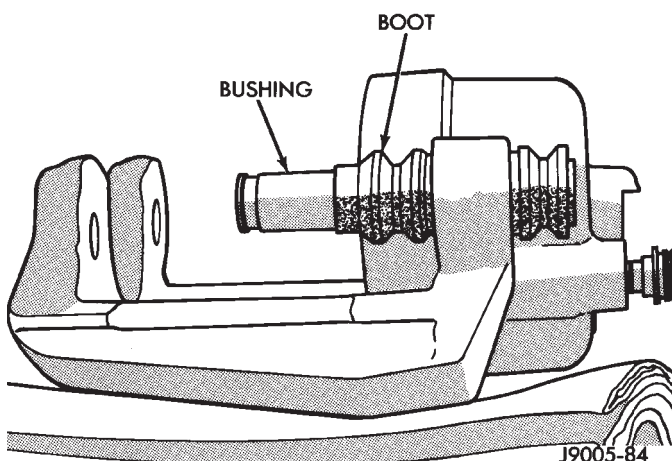

Fig. 20 Installing Bushings And Boots
(1) Coat caliper piston bore, new piston seal and piston with clean, fresh brake fluid.
(2) Lubricate caliper bushings and interior of bushing boots with GE 661, Dow 111, or Permatex Dielectric silicone grease.
(3) Install bushing boots in caliper first. Then insert bushing into boot and push bushing into place (Fig. 20).